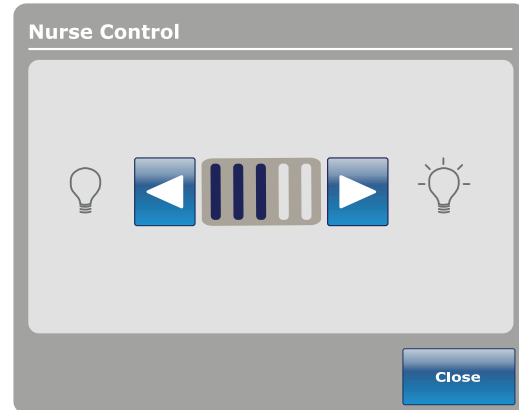

Figure 91: Nurse control LED intensity
2. Tap the left or right arrow (Figure 91 on page 84).
3. To save the LED intensity setting, tap **Close** (Figure 91 on page 84).